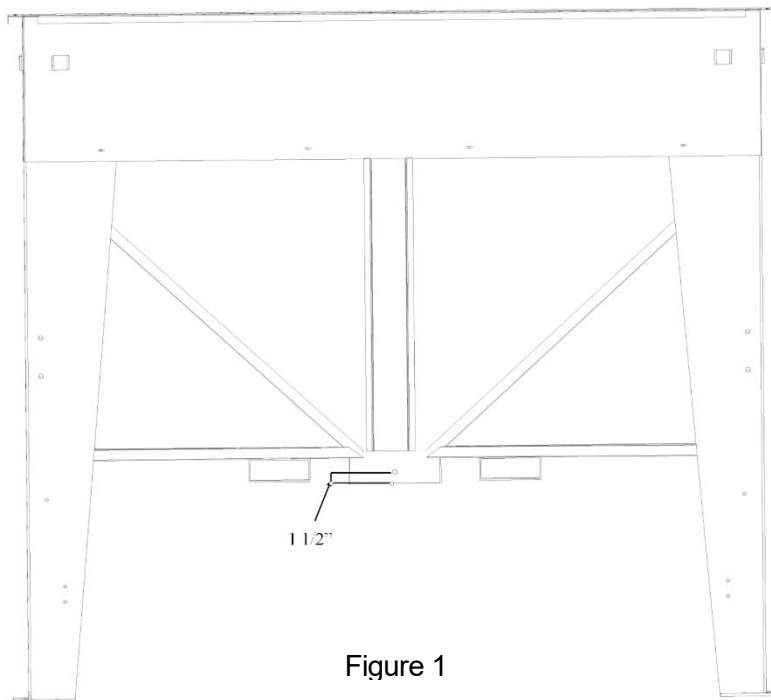

Figure 1
1. Measure up 1 1/2" from bottom of hopper opening and drill .44" hole in the center of the side. (See Figure 1).